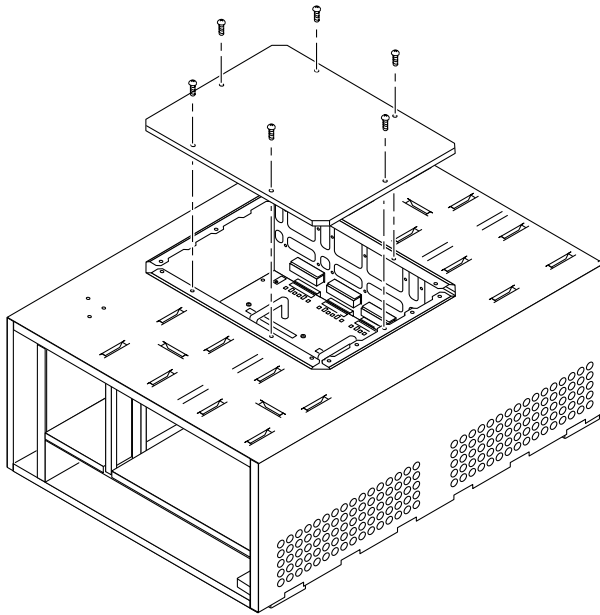

FIGURE 7-20 Removing the Metal Access Plate
8. Use a Phillips screwdriver to remove the screws securing the metal access plate (FIGURE 7-20).